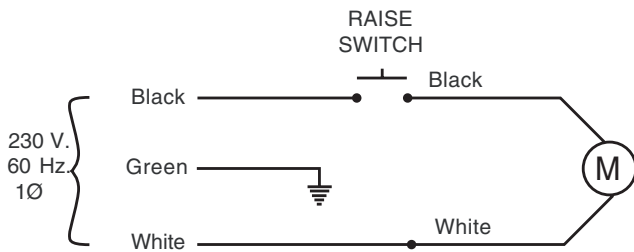

Fig. 18
10. Electrical: Have a certified electrician run 230 volt single phase 60 Hz. power supply to motor, Fig.18 and 19. Size wire for 30 amp. circuit. See Motor Operating Data table.